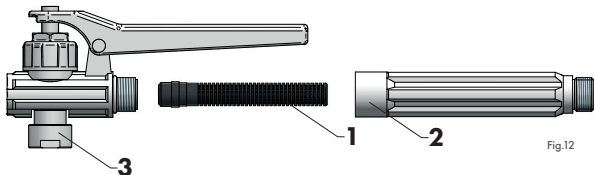

Fig.12
Move the sprayer to the work site. Use the piston rod (fig. 7c) to pump the sprayer (around 20 full motions) until the safety valve operates (fig. 7a/pos. 1). As soon as the safety valve opens (fig. 7a/pos. 1), maximum tank pressure has been reached. Monitor the tank pressure on the pressure gauge (fig. 12/pos. 3).
During operation, the pressure in the tank will decrease. Monitor the pressure on the pressure gauge (fig. 12/pos.3). Restore the tank pressure by pumping.
The filter (fig. 12/pos. 1) located on the lance handle (fig. 12/pos. 2) and the adjustable nozzle (fig. 10/pos. 1) located at the lance tip (fig. 1/pos. 1) must be cleaned periodically and before any prolonged downtime.